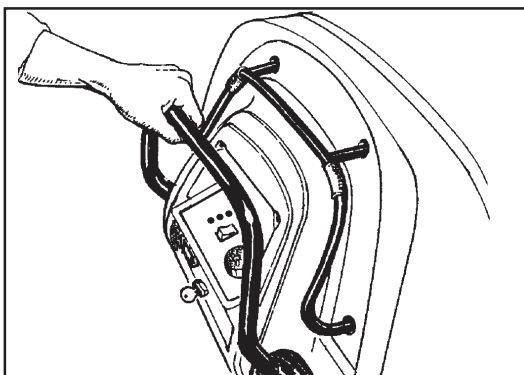

Figure 11
5. To go backward, pull the handles away from the machine. See figure 11.
5. Pour reculer, tirez les manettes vers vous. Cf. figure 11.